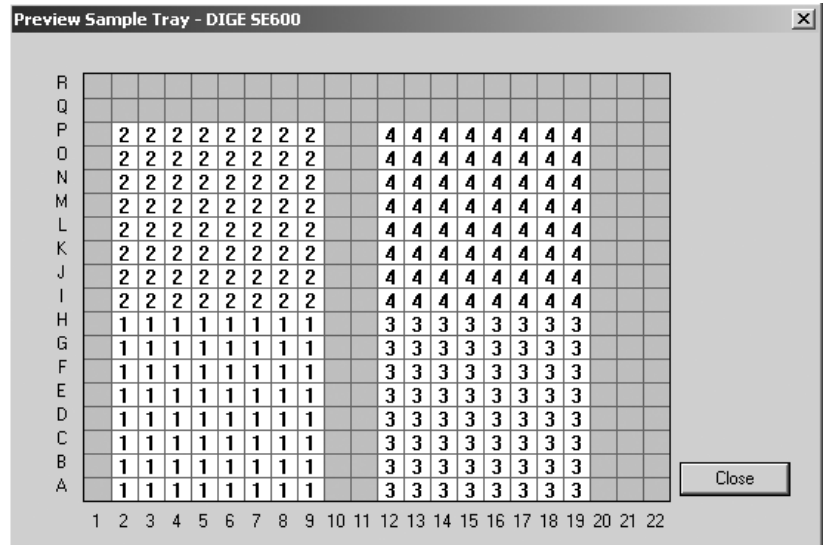

Figure 3-7. The Preview Sample Tray window.
13. Click **Preview**. The Preview Sample Tray window appears and displays the scan areas for the samples you defined (figure 3-7).
8. Click **Preview**. The Preview Sample Tray window appears and displays the scan areas for the samples you defined (figure 3-7).